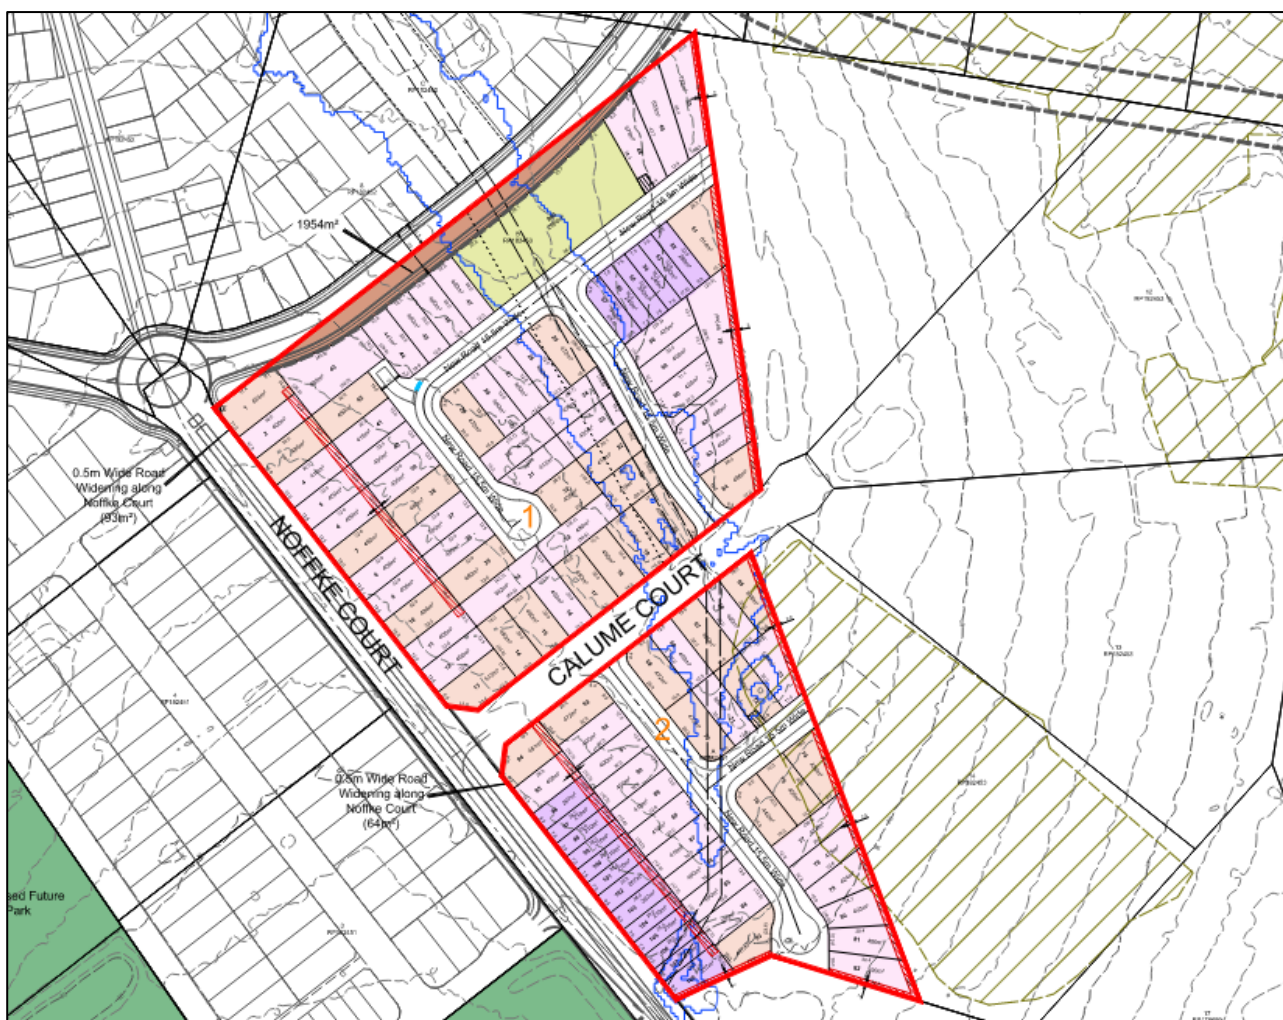

Figure 3.1 Proposed Masterplan (Saunders Havill, 2025)
| Figure 3.1 | Proposed Masterplan (Saunders Havill, 2025) ..... | 3  |
The subject site is proposed to be reconfigured and developed from three (3) into 108 lots, along with a Bioretention Basin. The proposed development layout is shown below in Figure 3.1, and on the Master Plan (Drawing No. 12685-P-10 Rev E – PRO 01) prepared by Saunders Havill which is included in Appendix A of this report. It should be noted that this proposed development also includes the upgrade of Calume Court and the construction of the new collector road to the north of the development. Refer to the Conceptual Engineering Drawings within Appendix B for further information.